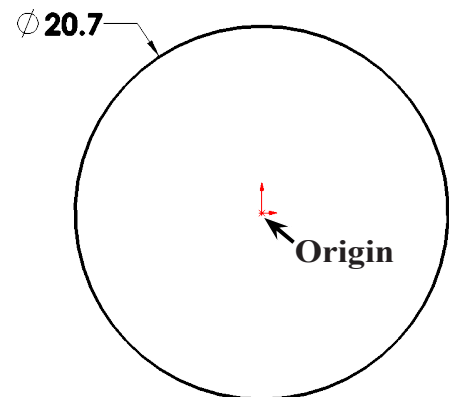

Fig. 2
Step 3. Click **Circle**  (S) on the Sketch toolbar.
Step 4. Sketch circle at **Origin** , **Fig. 2**.
Step 5. Click **Smart Dimension**  (S) on the Sketch toolbar.
Step 6. Dimension **diameter 20.7**, **Fig. 2**.